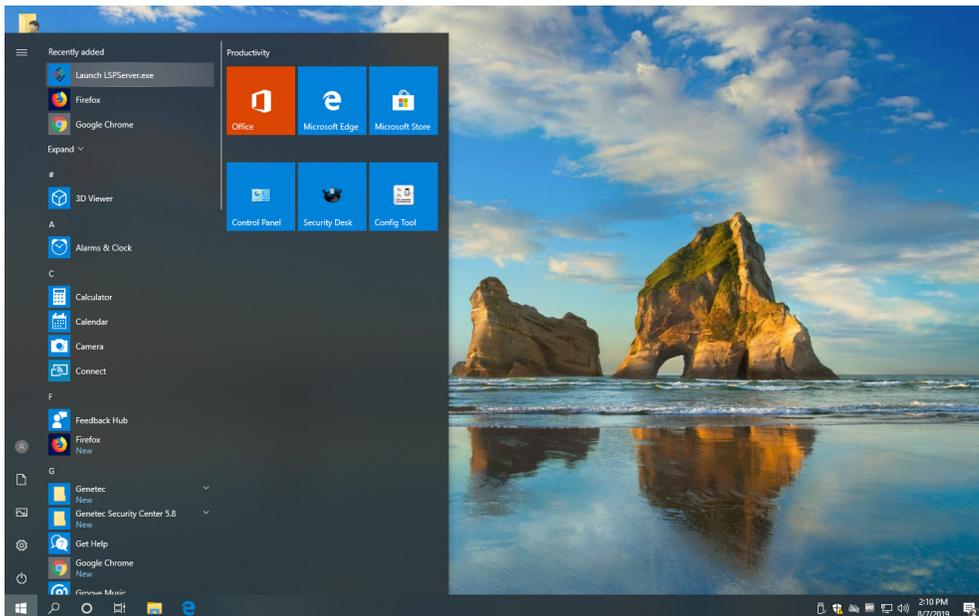

Figure 6
- From the Start Menu, click "Launch LSPServer.exe" to open the LSPEntity management interface (Figure 6).